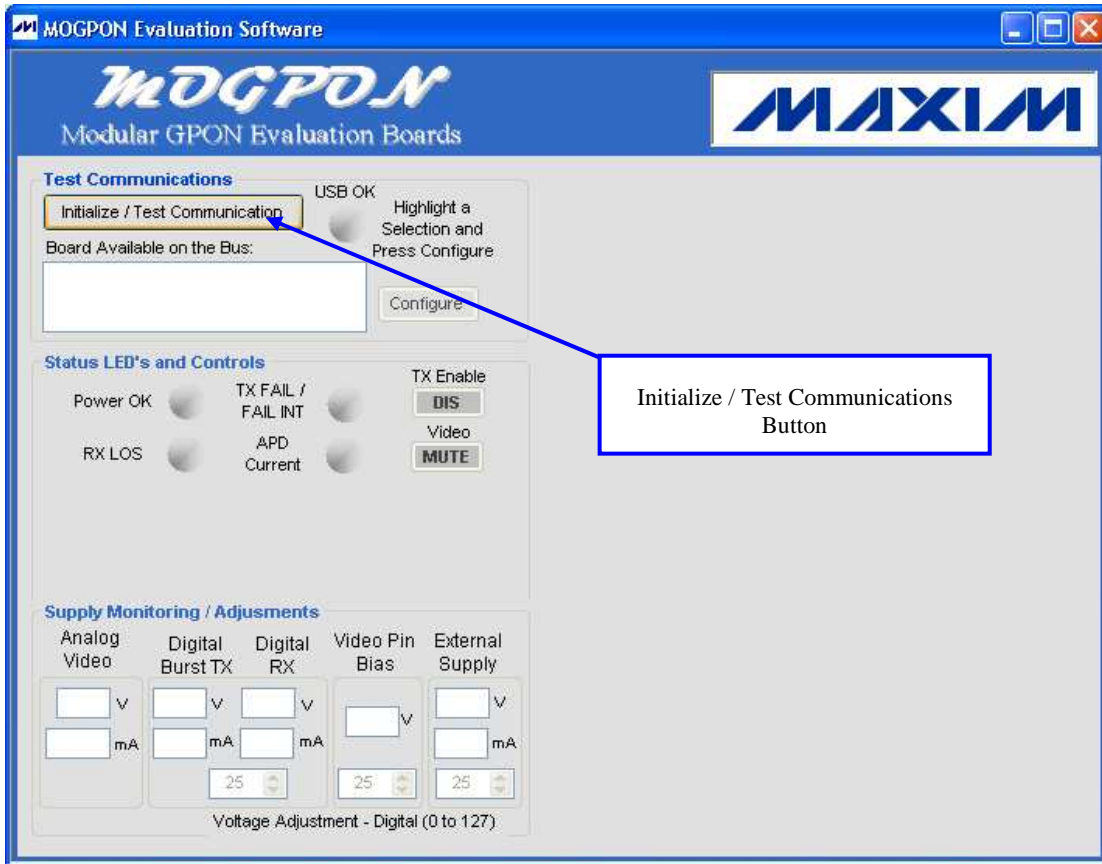

Figure 2: MOGPON Evaluation Software (Initialize)
4. Run the MOGPON program from the Windows start menu and press the "Initialize / Test Communications" button (Figure 2).